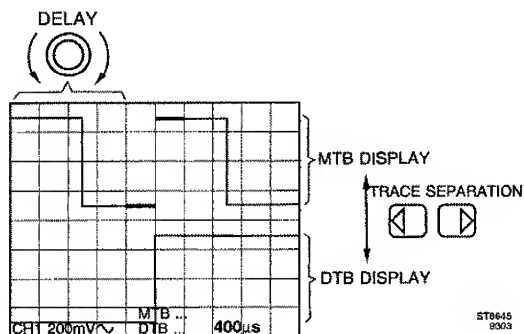

Figure 3.8
- Adjust the DELAY control to 400.0 μ s so that the display of Fig. 3.8 is obtained. For this the TRACE SEPARATION keys (or TRACK rotary) must be adjusted such that MAIN TB is above the DELAY TB display.